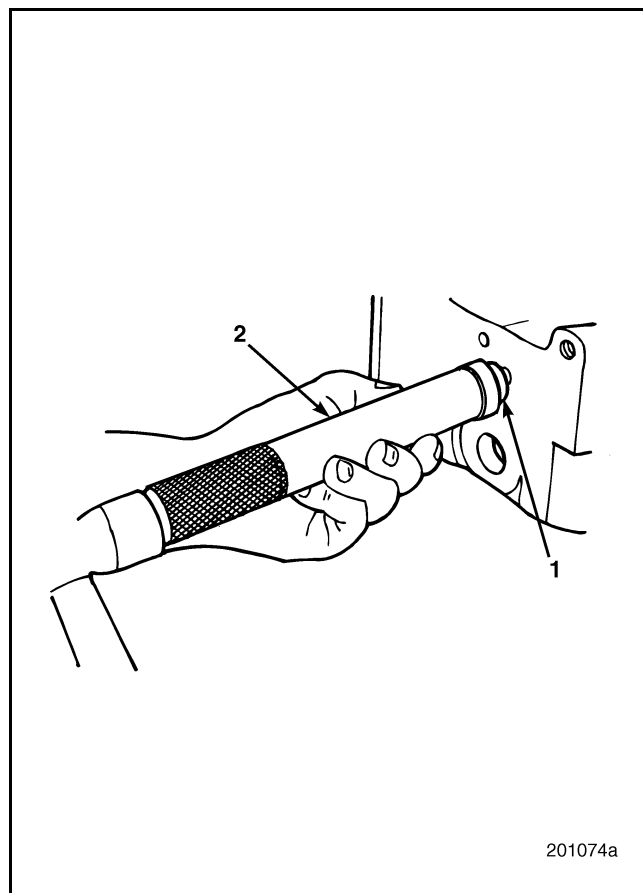

Figure 275 — Cylinder Head Cup Plug Installation
3. Install the cup plugs in the cylinder head, using the appropriate cylinder head core plug installer, J 34684 for 13/16-inch (20.64 mm) cup plugs, and J 34687 for 1-1/16-inch (26.99 mm) cup plugs. Refer to Figure 275.